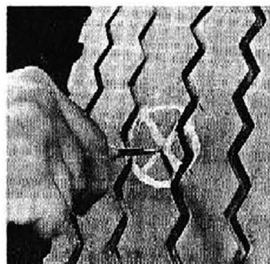

Fig. 73
1. Probe the injury with an awl or hand rasp to remove puncturing object and other foreign material (fig. 73).